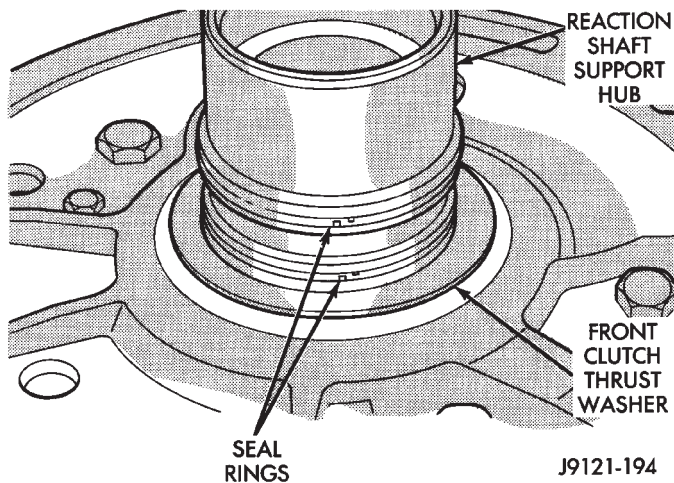

Fig. 155 Reaction Shaft Support Seal Rings
(6) Verify that reaction shaft support hub seal rings are hooked together (Fig. 155).